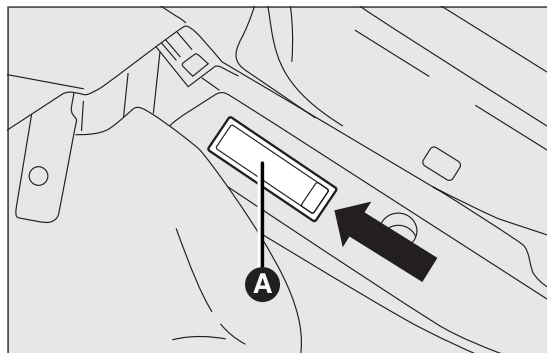

fig. 124
- ☐ using the screwdriver provided, extract the roof light A fig. 124 working in the point shown;